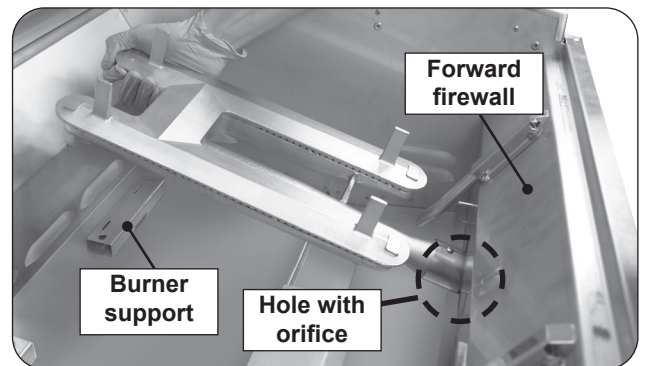

Fig. 40-3 Remove main burner
3. Carefully lift the burner from the burner support and out from the hole in the forward fire wall. See Fig. 40-3.